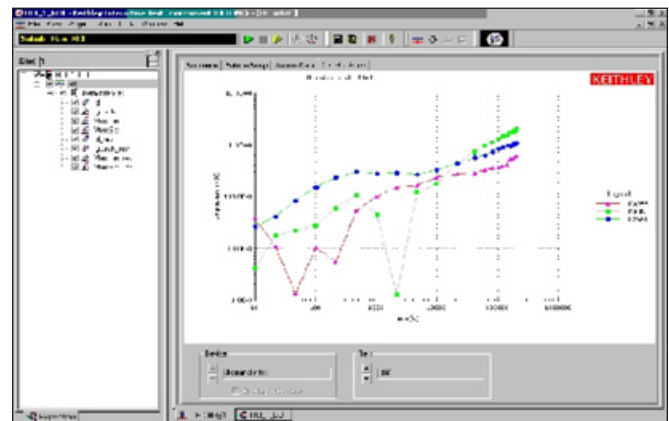

Figure 5. Model 4200-SCS HCI test screen with real-time data plots.
**Figure 5** shows the bundled HCI sample project. On the left is the sequencer showing the order of measurement tests and the overall structure of the project. The gray highlight is on the stress portion of